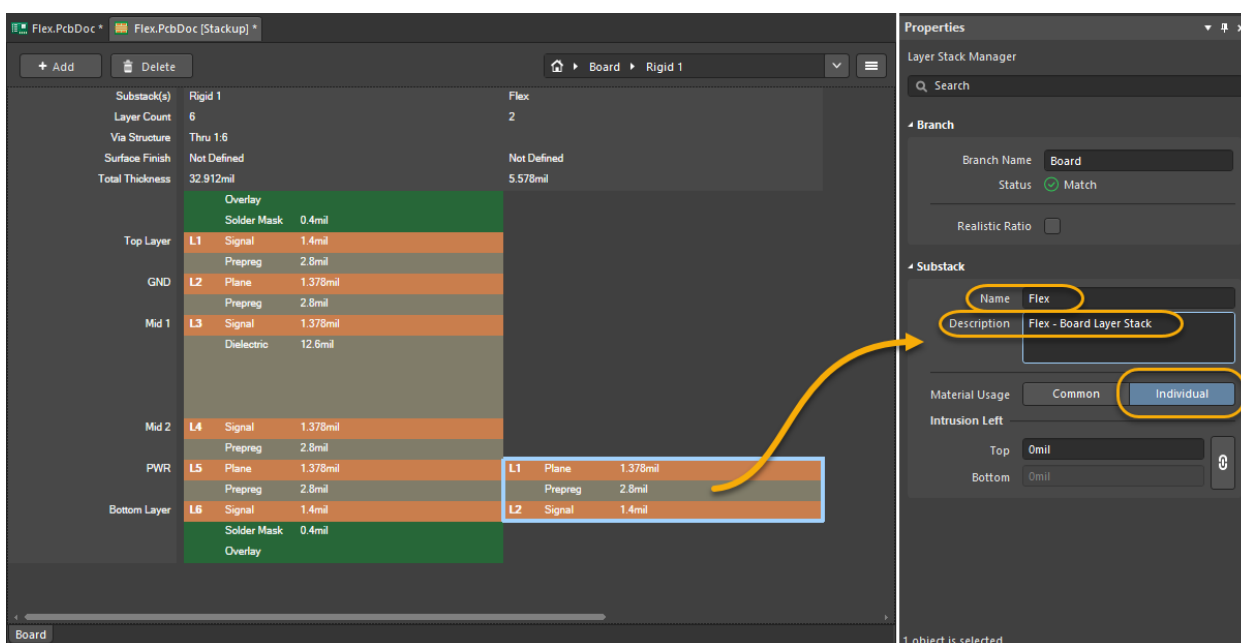

Figure 9. Name the second stack for the Flex section
17. With *Stack2* as the active stackup, open the *Properties* panel if needed (Figure 9) and
- a) Change *Material Usage* to **Individual** as shown in Figure 9.